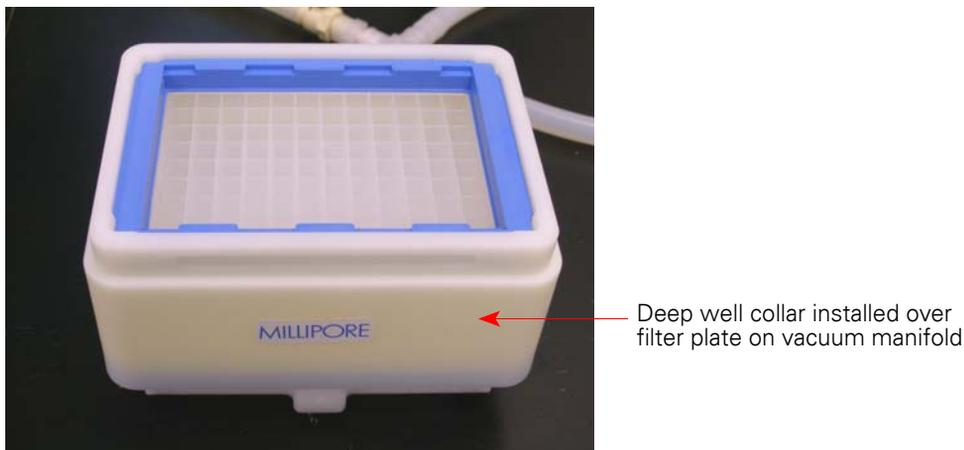

Figure A.6 Plate Stack Inside Vacuum Manifold with Deep Collar
- C. Place the *deep well* collar over the plate stack (Figure A.6 on page 307).